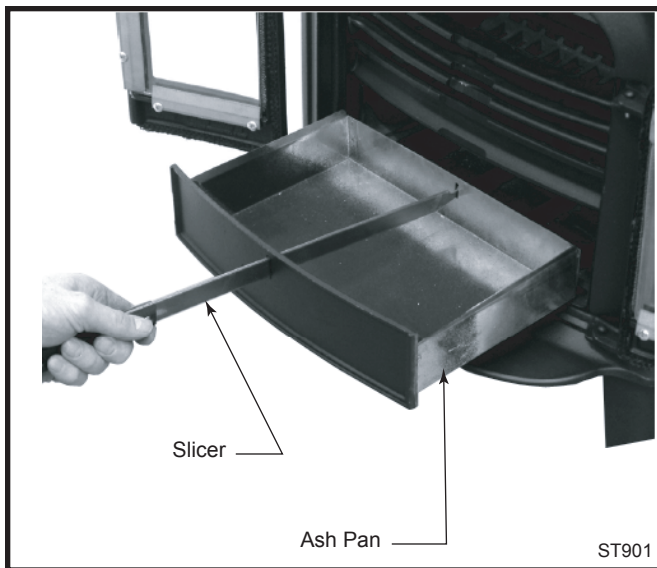

Fig. 25 Check the ash pan regularly and clean out when necessary.
3. Check the ash level in the pan and empty if necessary. (Fig. 25)
3. Using the slicer, pull the ash pan fully out of the stove, sliding the slicer through the slot in the front of the ash pan so the hook in the end of the slicer locates in the slot in the rear of the ash pan. This provides a secure location and allows the slicer to act as a handle for the ash pan. (Fig. 25)